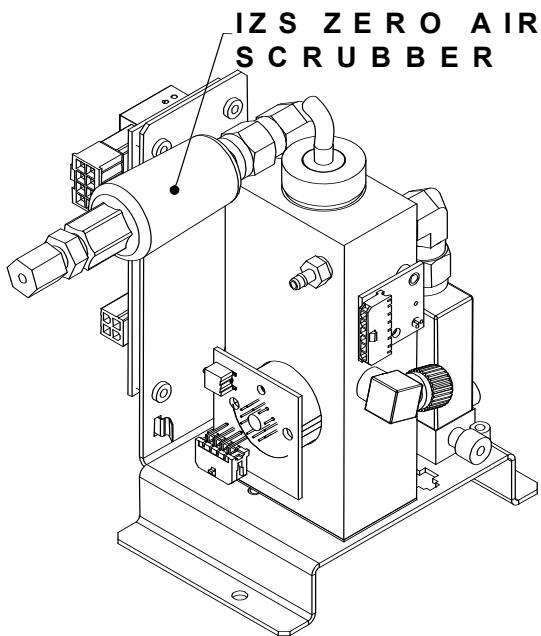

Figure 12-6: IZS O₃ Generator Zero Air Scrubber Location
3. The IZS zero air scrubber is attached to the brass elbow inlet fitting on the top of the O₃ generator assembly. See Figure 12-6.